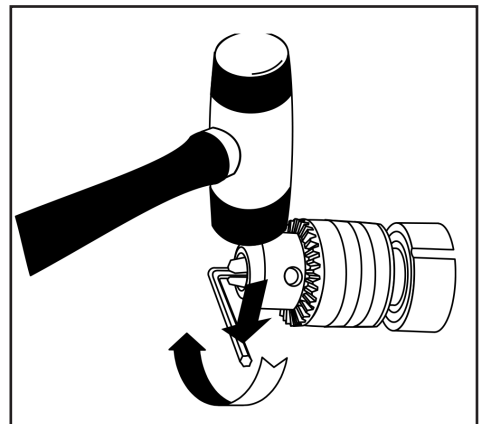

Fig.11
6. Remove the chuck screw using a #2 screwdriver (Fig. 11).
2. Tap the hex key sharply with a mallet in a CLOCKWISE direction (Fig. 11). This will tighten the chuck on the spindle.